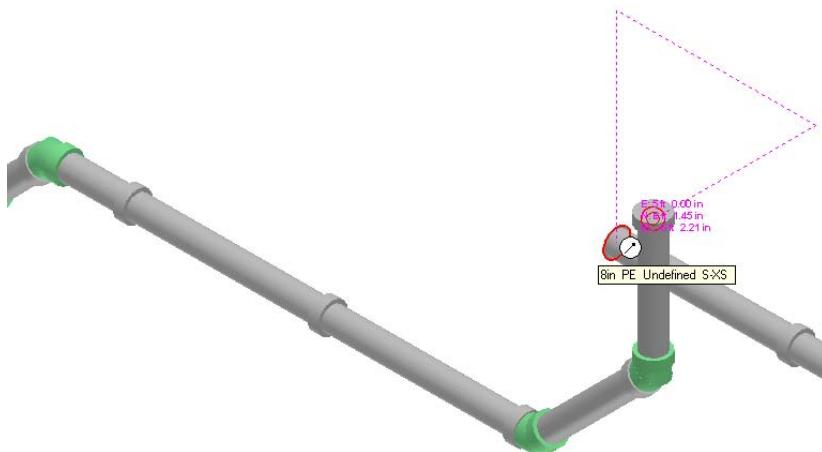

Figure 45: Defining the Third Point on the Plane
80. The system prompts you to specify the third point of the plane. Select the turning point of the routing line, as shown in Figure 45, to define the third point of the plane.